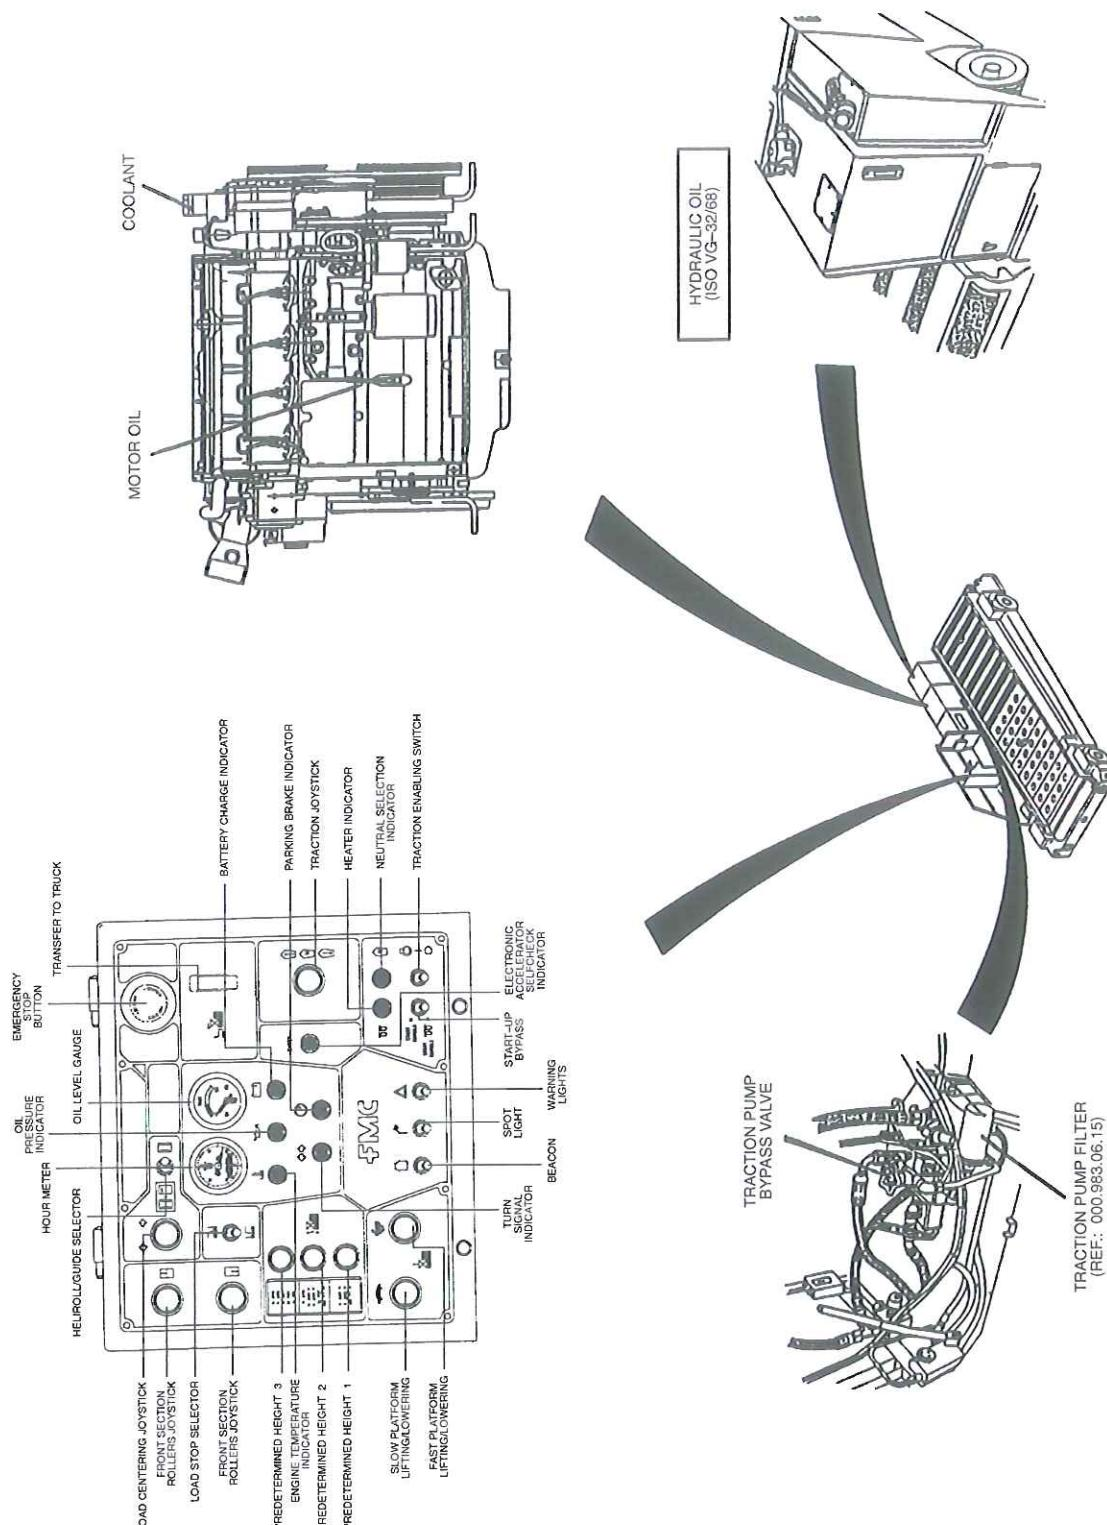

Figure 4
A. PRELIMINARY CHECKS (SEE FIGURE 4)